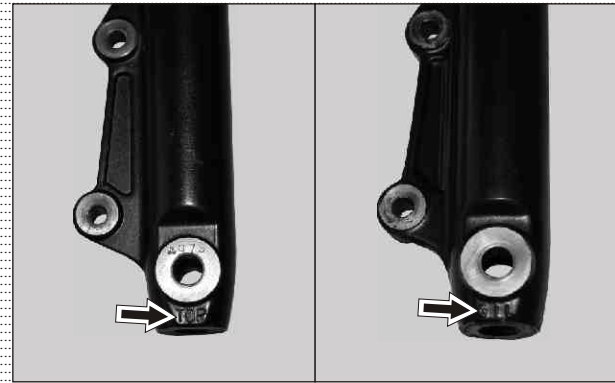

Fig. 6.47
- Both apache RTR SD & DD comes with 'GIL' or 'TOP' make of front fork assy. Make can be identified by the mark 'GIL' or 'TOP' which are provided on the lower end of their respective outer tube L & R. (Fig. 6.47)